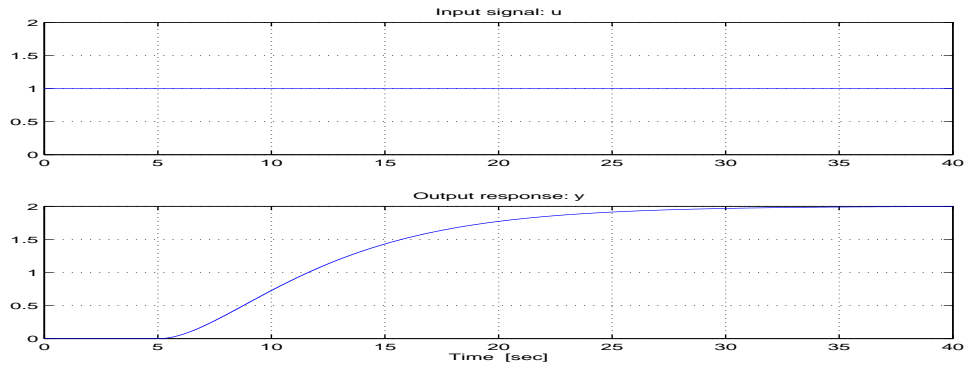

Figure 2: Time response of dynamic system from input u to output y .
- Given the input and output transient responses, $u = u(t)$ and $y = y(t)$ respectively, as illustrated in Figure 2. Propose the structure of the corresponding transfer function $h_p(s)$?